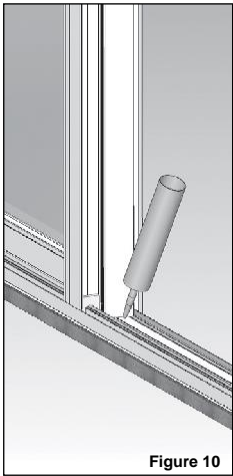

Figure 10
12. Seal the joints between the astragal meeting rail and the sill and head casing with silicone (Figure 10).